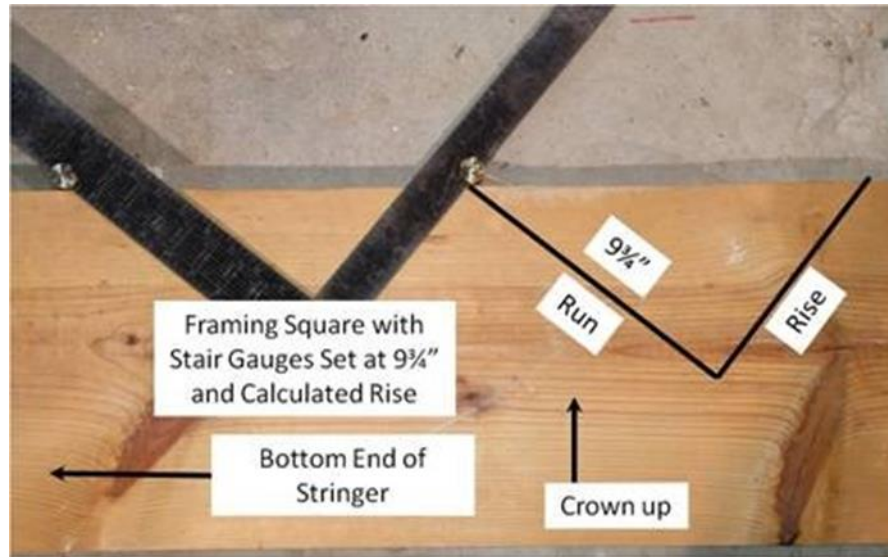

Figure 4-3. Stair Stringer Layout.
2. Attach stair gauges to the framing square and locate the precise dimensions calculated in Section 4.5.1 for run and rise. If the rise is 7¾”, set the gauge to this dimension on the short side of the square; set the gauge to 9¾” on the long side of the square (see Figure 4-3).